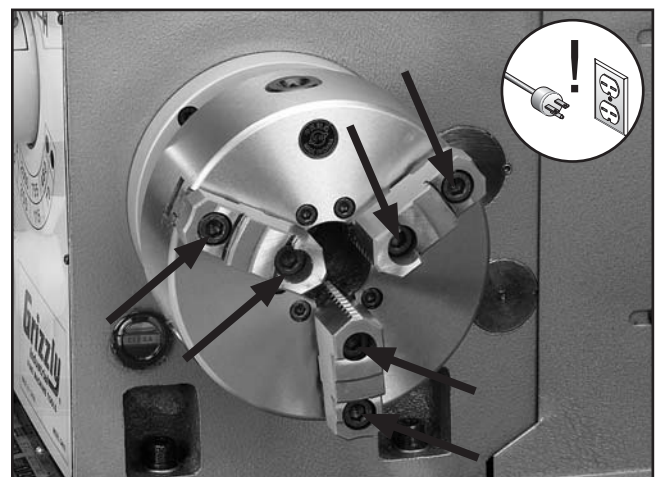

Figure 26. Cap screws securing the jaws.
- Remove the cap screws (**Figure 26**) from one of the jaws with an 8mm hex wrench, then remove the jaw.